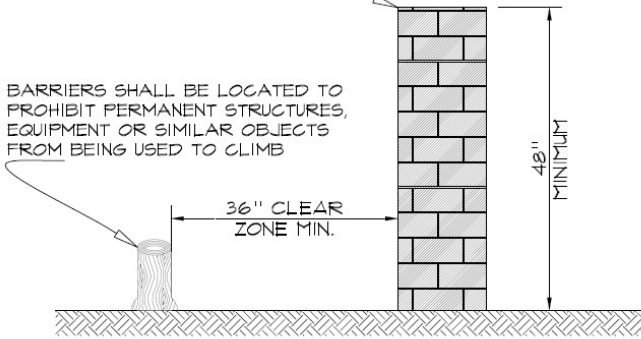

Figure 1
3. Solid barriers which do not have openings, such as a masonry or stone wall, shall not contain indentations or protrusions except for normal construction tolerances and tooled masonry joints. **See Figure 1.**
1. **CLEAR ZONE** There shall be a clear zone of not less than 36 inches (914 mm) around the exterior of the barrier and around any permanent structures or equipment such as pumps, filters and heaters that can be used to climb the barrier. Barriers must be installed at least 36 inches from property line unless legal recorded easement is provided. **SEE FIGURE 1**